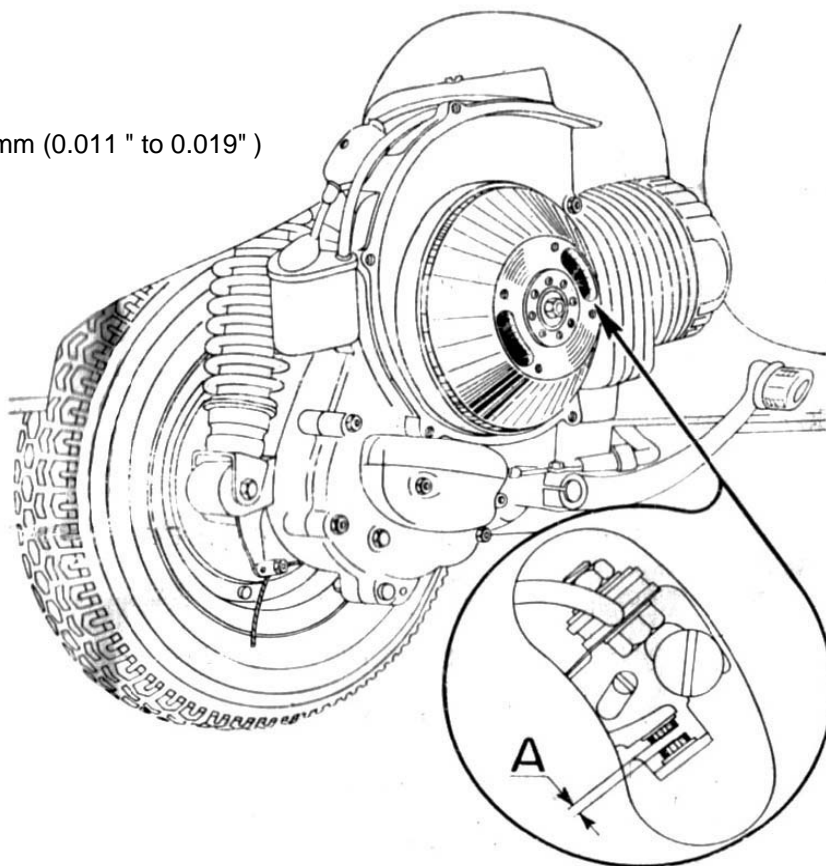

Fig. 20 - Breaker points.
- Clean the breaker points. Check the gap and adjusted if needed. The gap should be 0.3 to 0.5 mm (0.011 " to 0.019"), and the points should begin to open when the current in the primary ignition circuit has reached its peak value. (See Fig. 20.)